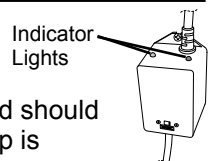

Figure 7
22. Once power is activated you can check the ballast (12), Figure 7, to see if the CLEARRAY System is functioning. A solid green light indicates that the CLEARRAY System is being provided power and should always be on. A solid red light indicates that UV lamp is activated.